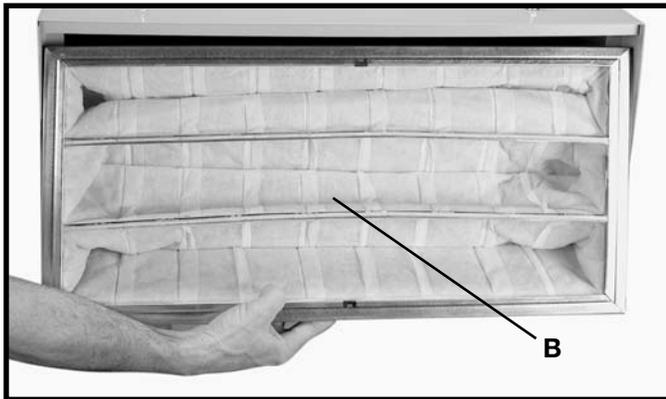

Fig. 9
2. Remove inner bag filter (B) Fig. 9 in the same manner.